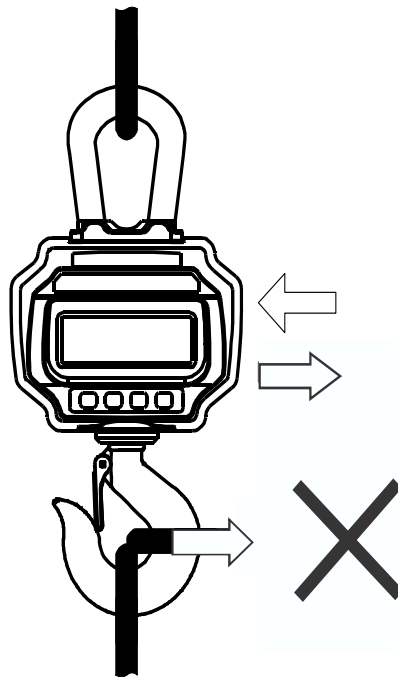

Figure 5.3 Side Stress on Hook
- DO NOT push/pull on loaded scale or directly on hook! Refer to Figure 5.3